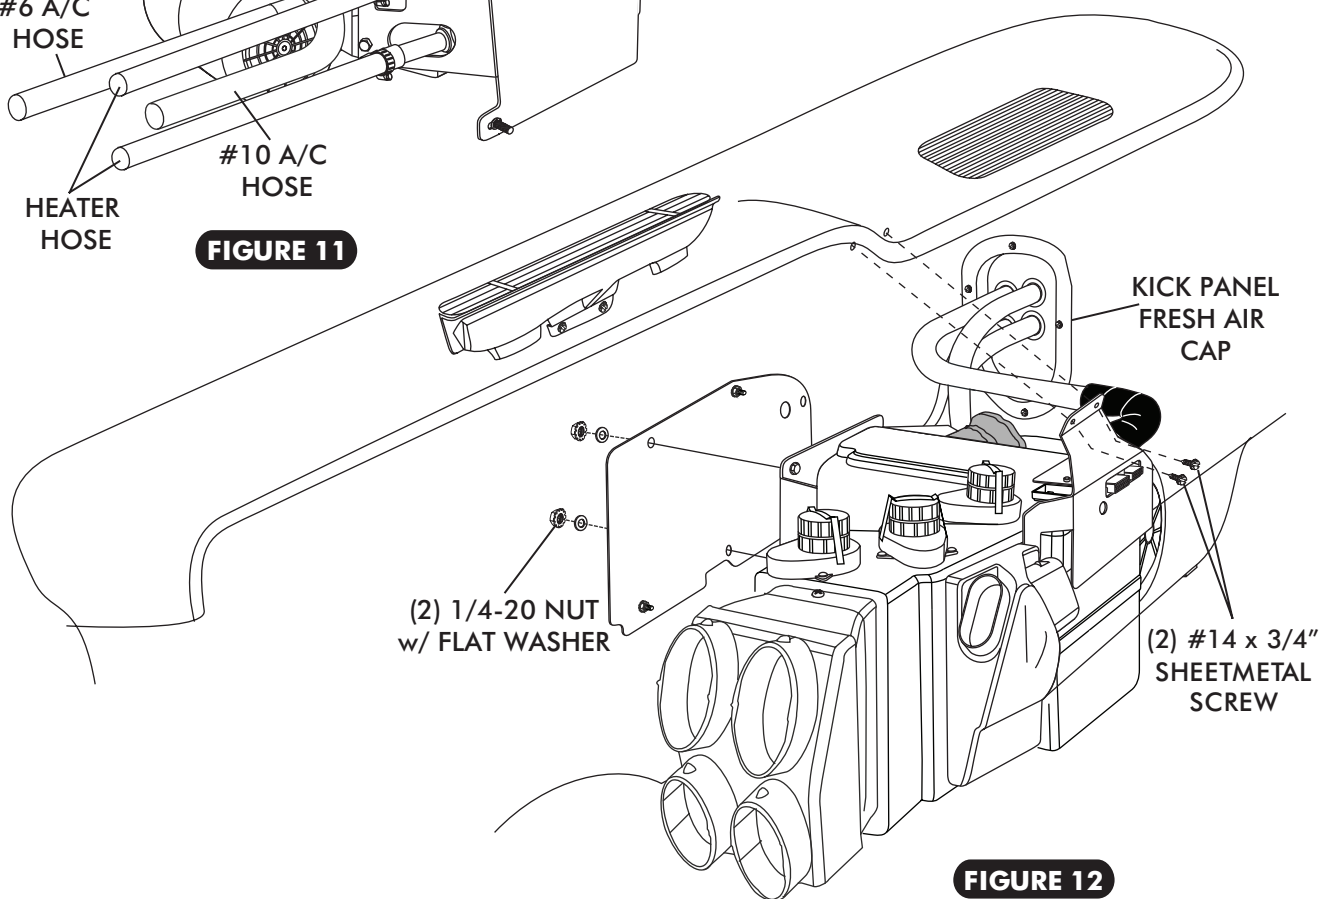

FIGURE 12
- LIFT EVAPORATOR UNIT UP UNDER THE DASHBOARD. SECURE LOOSELY TO THE FIREWALL FROM THE ENGINE COMPARTMENT SIDE USING (2) 1/4-20 NUT AND FLAT WASHER, SEE FIGURE 12.
- SECURE THE FRONT EVAPORATOR MOUNTING BRACKET TO COWL USING (2) #14 x 3/4 HEX SHEET METAL SCREWS SEE FIGURE 12 BELOW.